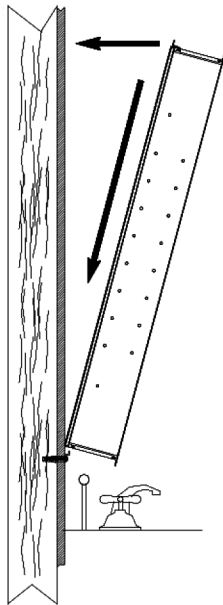
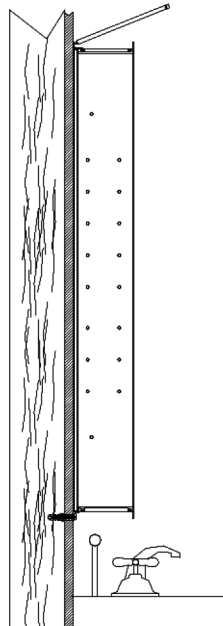

FIG 13
FIG 14
7. Place cabinet onto wall bracket (Fig 13). Mark hole locations of z-clips (Fig 14). When determining location, it is recommended that at least one z-clip be located at a stud.